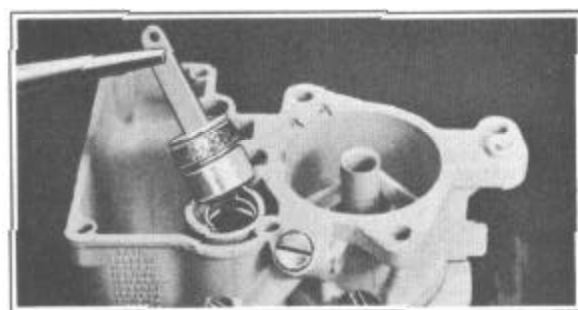

FIGURE 40
14. Install pump spring and pump plunger and rod assembly, Figure 40. Examine leather for damage. If not in good condition, replace entire assembly.